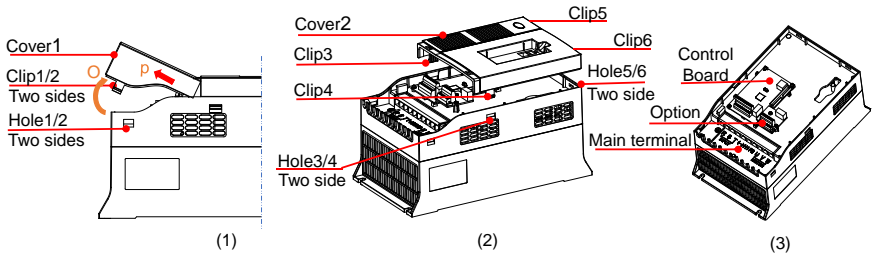

Fig.3-3b NE300 3P 400V 15~22kW(GB)/18.5~30kW(PB)
- Wiring preparation (Fig.3-3b): Loosen the clip 1/2, then open along the 'O' direction, take off cover1 along the 'P' direction. Loosen the clip 3-6